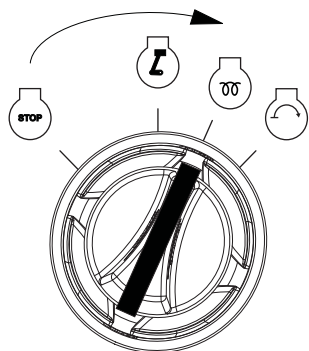

Figure 3-7. Activate Glow Plug
- See Figure 3-7. Turn ignition switch to GLOW PLUG position and hold for 10 to 15 seconds